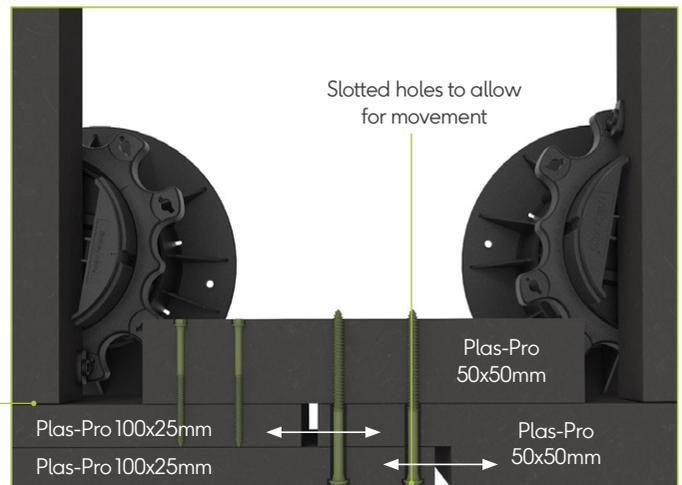

Fig. 34 - Plas-Pro fascia support to rim joist connection
- d. Connecting the Plas-Pro fascia support ends to the 50x50mm rim joist should be done with an expansion half lap joint (fig. 34)